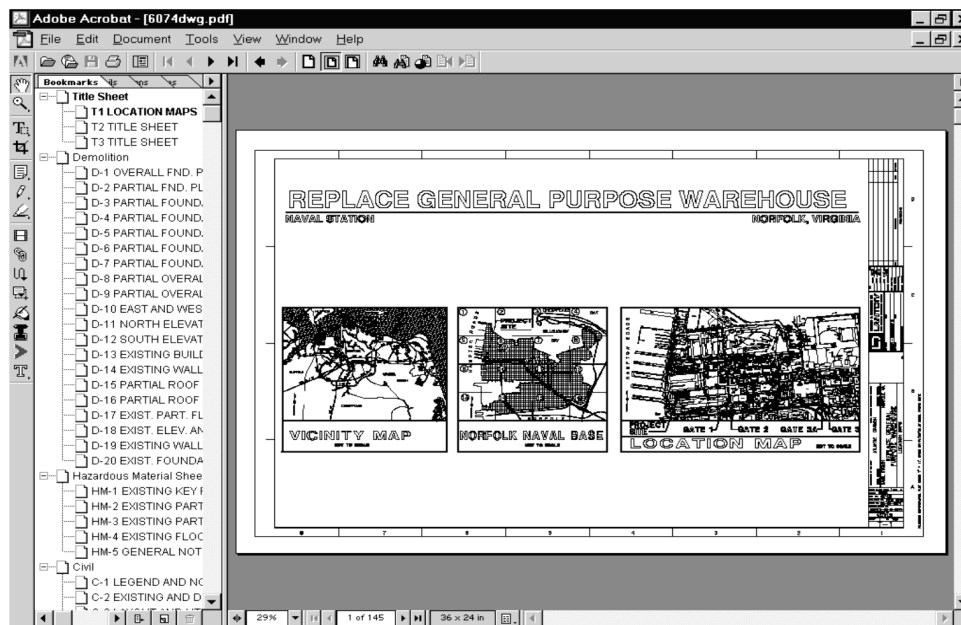

Figure 4.6
See Sections 1.1 and 3.1 for proper arrangement of bookmarks for EBS. See Figure 4.6 for a sample arrangement of bookmarks for plans. The +/- sign next to some bookmarks indicates that it has sub-bookmarks nested below it. You can collapse/open the sub-bookmarks by clicking on the sign.
**Drawings** A bookmark should be created for the beginning of each drawing discipline. Sub-bookmarks should be created for individual drawing sheets. Bookmark wording should include, as a minimum, drawing sheet number (original, revised, or amended) and be as descriptive as practical (i.e., S-1 Foundation Plan). See Figure 4.6.
When complete, save and close your PDF. Re-open it. Your initial view should be similar to Figure 4.6.